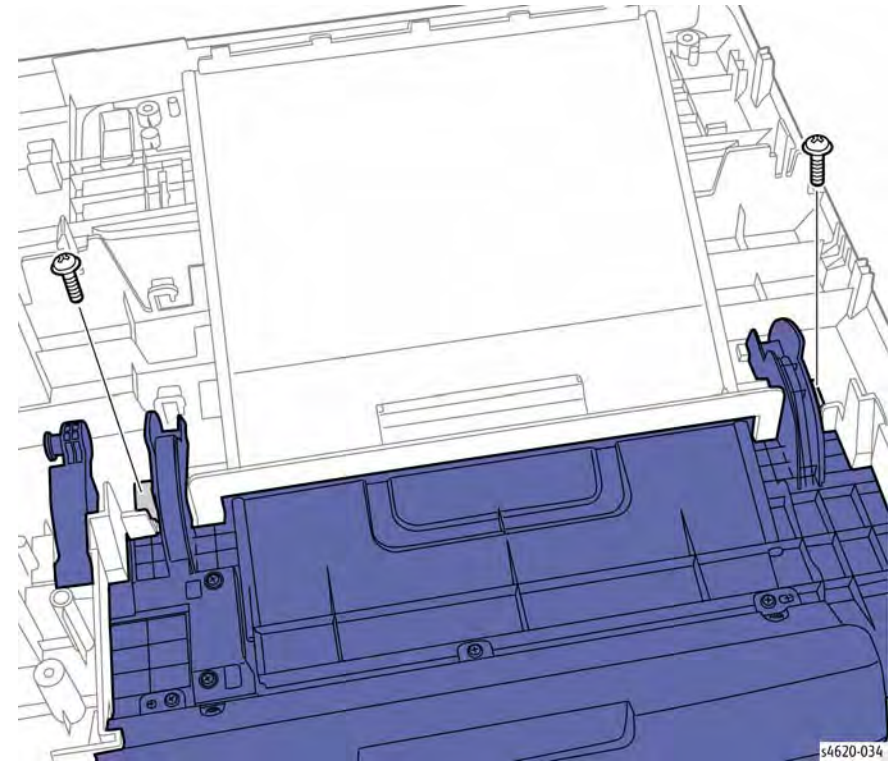

Figure 2 Remove the Top Door hinges
7. Remove 2 screws (plastic) that secure the Top Door hinges to the Top Cover, Figure 2.